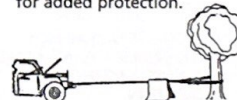

Figure 5
- It is a good idea to lay a heavy blanket or jacket over the wire rope near the hook end when pulling heavy loads (Figure 5). If a wire rope failure should occur, the cloth will act as a damper and help prevent the rope from whipping. Raise hood of vehicle for added protection.